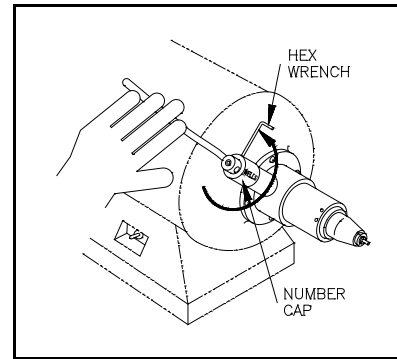

Figure 9.
6.6.3 Turn the number cap counterclockwise against the spring tension until the set screw is facing straight up (12:00 o'clock). Be sure the handle is still in the operating position (9:30 o'clock). Tighten the set screw. See Figure 9. If there is no spring tension, the spring is damaged; go to section 6.7, REPLACING THE CLUTCH SPRING.
6.7.7 Turn the number cap counterclockwise against the spring tension until the number cap set screw is facing straight up (12:00 o'clock). Be sure the handle is still in the operating position (9:30 o'clock). Tighten the number cap set screw. See Figure 9.